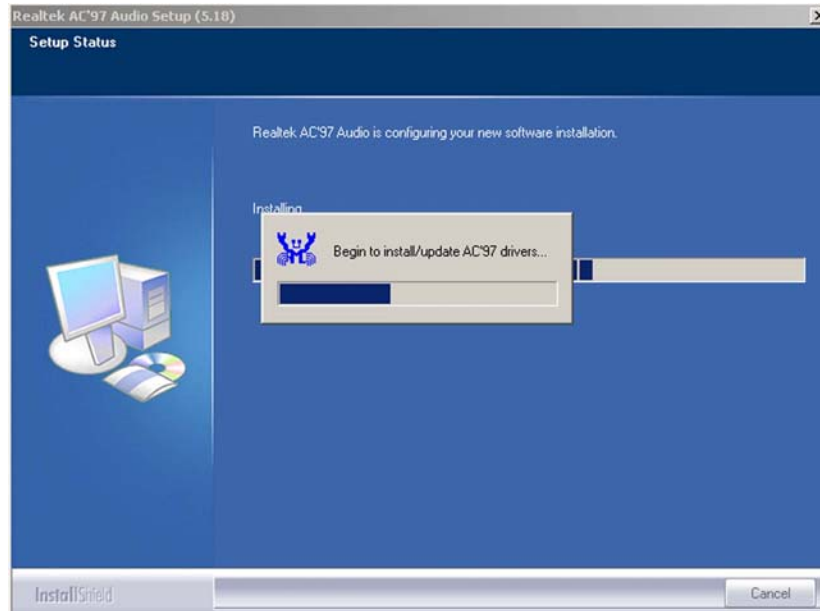

Figure 7-33: AC'97 Audio Driver Installation Begins
Step 8: After clicking the “**YES**” button in **Figure 7-32**, the installation of the driver begins (**Figure 7-33**).